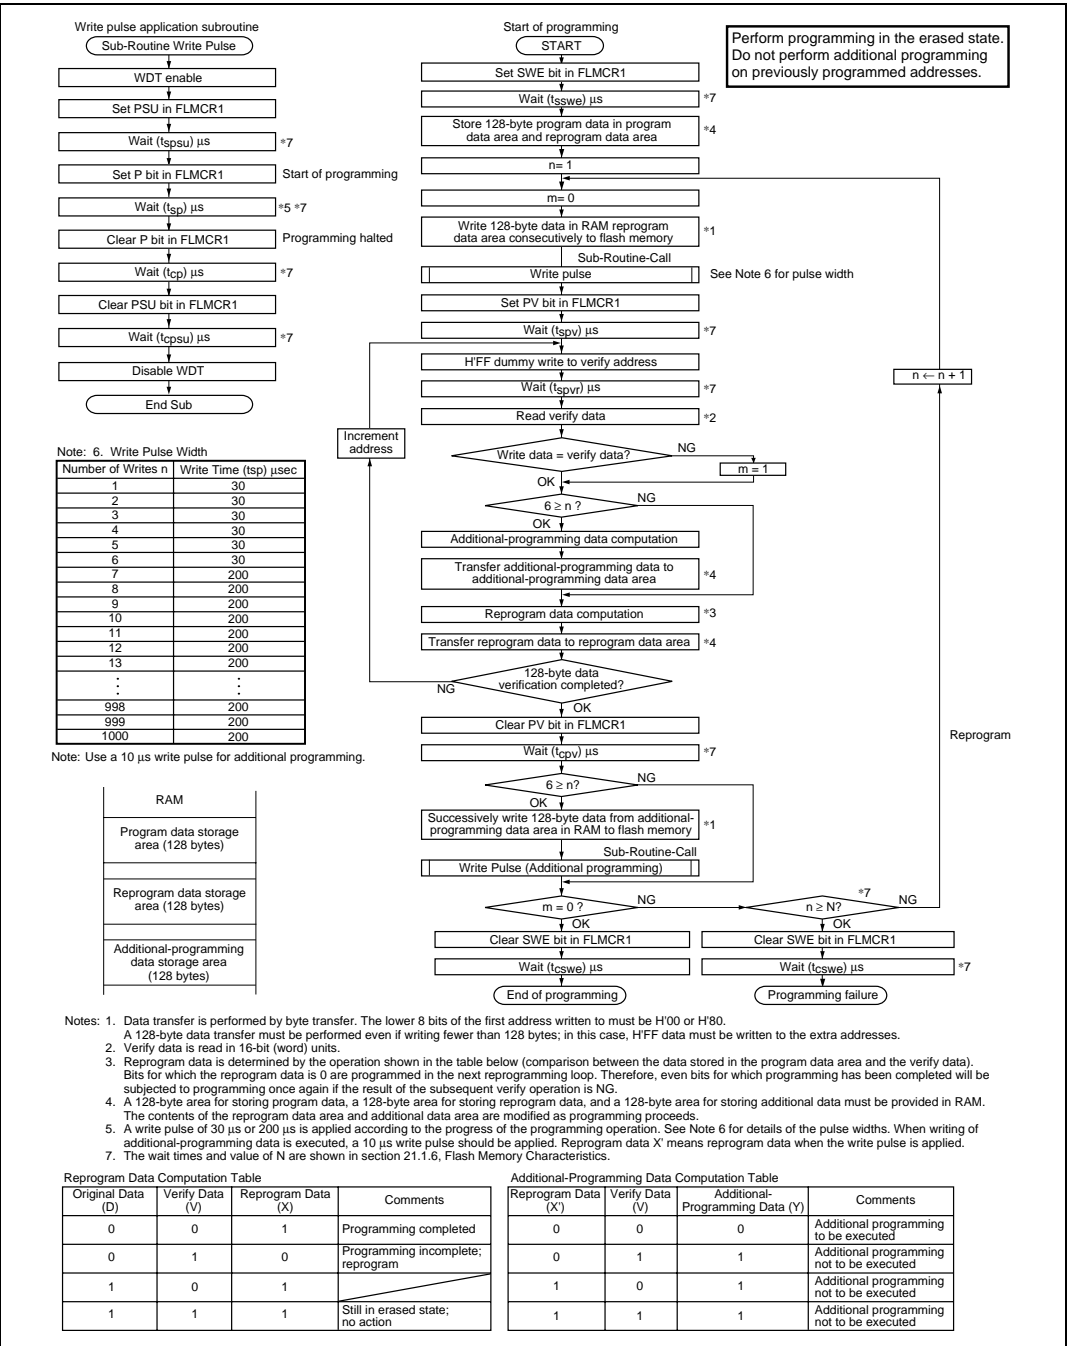

Figure 18.13 Program/Program-Verify Flowchart (128-Byte Programming)
To write data or programs to flash memory, the program/program-verify flowchart shown in figure 18.13 should be followed. Performing program operations according to this flowchart will enable data or programs to be written to flash memory without subjecting the device to voltage stress or sacrificing program data reliability. Programming should be carried out 128 bytes at a time.
After the elapse of the given programming time, clear the P bit in FLMCR1, then wait for at least (t_{cp}) μ s before clearing the PSU bit to exit program mode. After exiting program mode, the watchdog timer setting is also cleared. The operating mode is then switched to program-verify mode by setting the PV bit in FLMCR1. Before reading in program-verify mode, a dummy write of H'FF data should be made to the addresses to be read. The dummy write should be executed after the elapse of (t_{spv}) μ s or more. When the flash memory is read in this state (verify data is read in 16-bit units), the data at the latched address is read. Wait at least (t_{spvr}) μ s after the dummy write before performing this read operation. Next, the originally written data is compared with the verify data, and reprogram data is computed (see figure 18.13) and transferred to RAM. After verification of 128 bytes of data has been completed, exit program-verify mode, wait for at least (t_{cpv}) μ s, then determine whether 128-byte programming has finished. If reprogramming is necessary, set program mode again, and repeat the program/program-verify sequence as before. The maximum value for repetition of the program/program-verify sequence is indicated by the maximum programming count (N). Leave a wait time of at least (t_{cswe}) μ s after clearing SWE.
6. The program/program-verify flowchart for the H8/3048F-ONE is shown in figure 18.13. To cover the points noted above, bits on which reprogramming processing is to be executed, and bits on which additional programming is to be executed, must be determined as shown below.